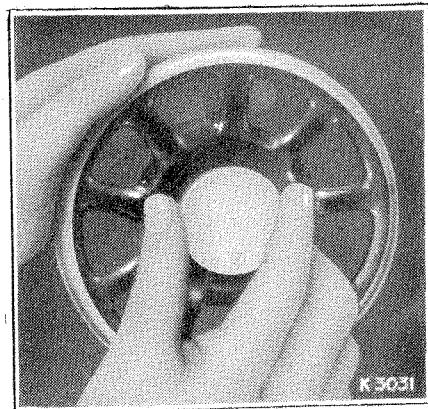
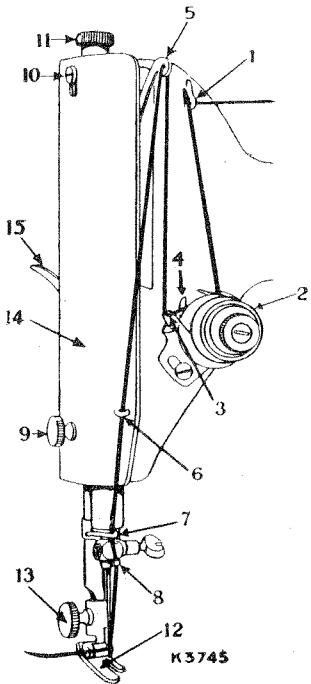

Fig. 1.
Fig. 9.
This device allows the balance wheel to run free, so that bobbins may be wound and the correct method of treadling acquired, without operating the stitching mechanism. To loosen the wheel, hold it with the left hand, and with the right hand turn the stop-motion screw over towards you, as shown in Fig. 1.
When familiar with the working movement, tighten the balance wheel, by turning the stop motion screw over from you, and place a piece of material under the presser foot (12, Fig. 9). Lower the latter by means of the lifter (15, Fig. 9) and again work the machine, without its being threaded, until you are accustomed to guiding the material.
Tighten the balance wheel (see Fig. 1) and place a piece of material under the presser foot (12, Fig. 9). Then lower the latter by means of the lifter (15, Fig. 9). Now **turn the handle over from you** to work the machine, without its being threaded, until you are accustomed to guiding the material with the left hand.
Loosen the balance wheel (see Fig. 1) and place a reel of thread on the pin (1). Place an empty bobbin on the spindle (3) and turn the former until the hole in its right side engages the pin in the spindle shoulder. Draw the thread under and between the tension discs (2) and pass it from the inside, through the hole in the left side of the bobbin and hold the end of thread. Now press down on the winder and the latch (4) will drop and retain the pulley (6) against the ledge of the balance wheel. Turn the latter over towards you until a few coils are wound and then break off the end of thread. Operate the machine until the bobbin is full, when the winder will stop automatically. Afterwards retighten the balance wheel for sewing.
### Upper Threading (See Fig. 9)
Raise the take-up lever (5, Fig. 9) to its highest and lift the presser foot (12 Fig. 9). Move the material back and to the left and sever the threads by passing them over the thread cutter above the presser foot. Leave the ends of the threads a few inches long under and to the back of the presser foot.
For ordinary family sewing it is seldom necessary to change the pressure on the material. If sewing fine silk or flimsy material, lighten the pressure by giving the thumb screw (11, Fig. 9) two or three turns upward. To increase the pressure, give the thumb screw a few turns downward.
To oil the needle bar mechanism, remove the thumb screw (9, Fig. 9) and loosen the screw (10, Fig. 9). Then slip the face plate (14, Fig. 9) up over the latter.
Draw to the left the slide in the bed of the machine, while the thread take-up lever (5, Fig. 9) is at its highest position. Apply one drop of oil to the sewing hook race in the bobbin case, as indicated by arrow "A" in Fig. 15, and a few drops to the oil hole "B" in Fig. 15. Then close the slide.